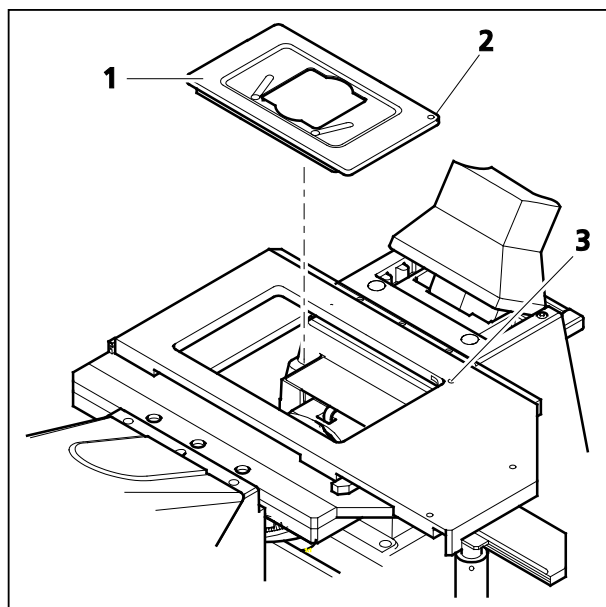

Fig. 22 Inserting the mounting frame K
- Now insert the mounting frame K (Fig. 22/1) into the mechanical stage. To do this, place the mounting frame corner with the red dot (Fig. 22/2) on the mechanical stage also marked with a red dot (Fig. 22/3). Then press the mounting frame diagonally against the springs and downwards into the recess. Ensure that the mounting frame is seated correctly.